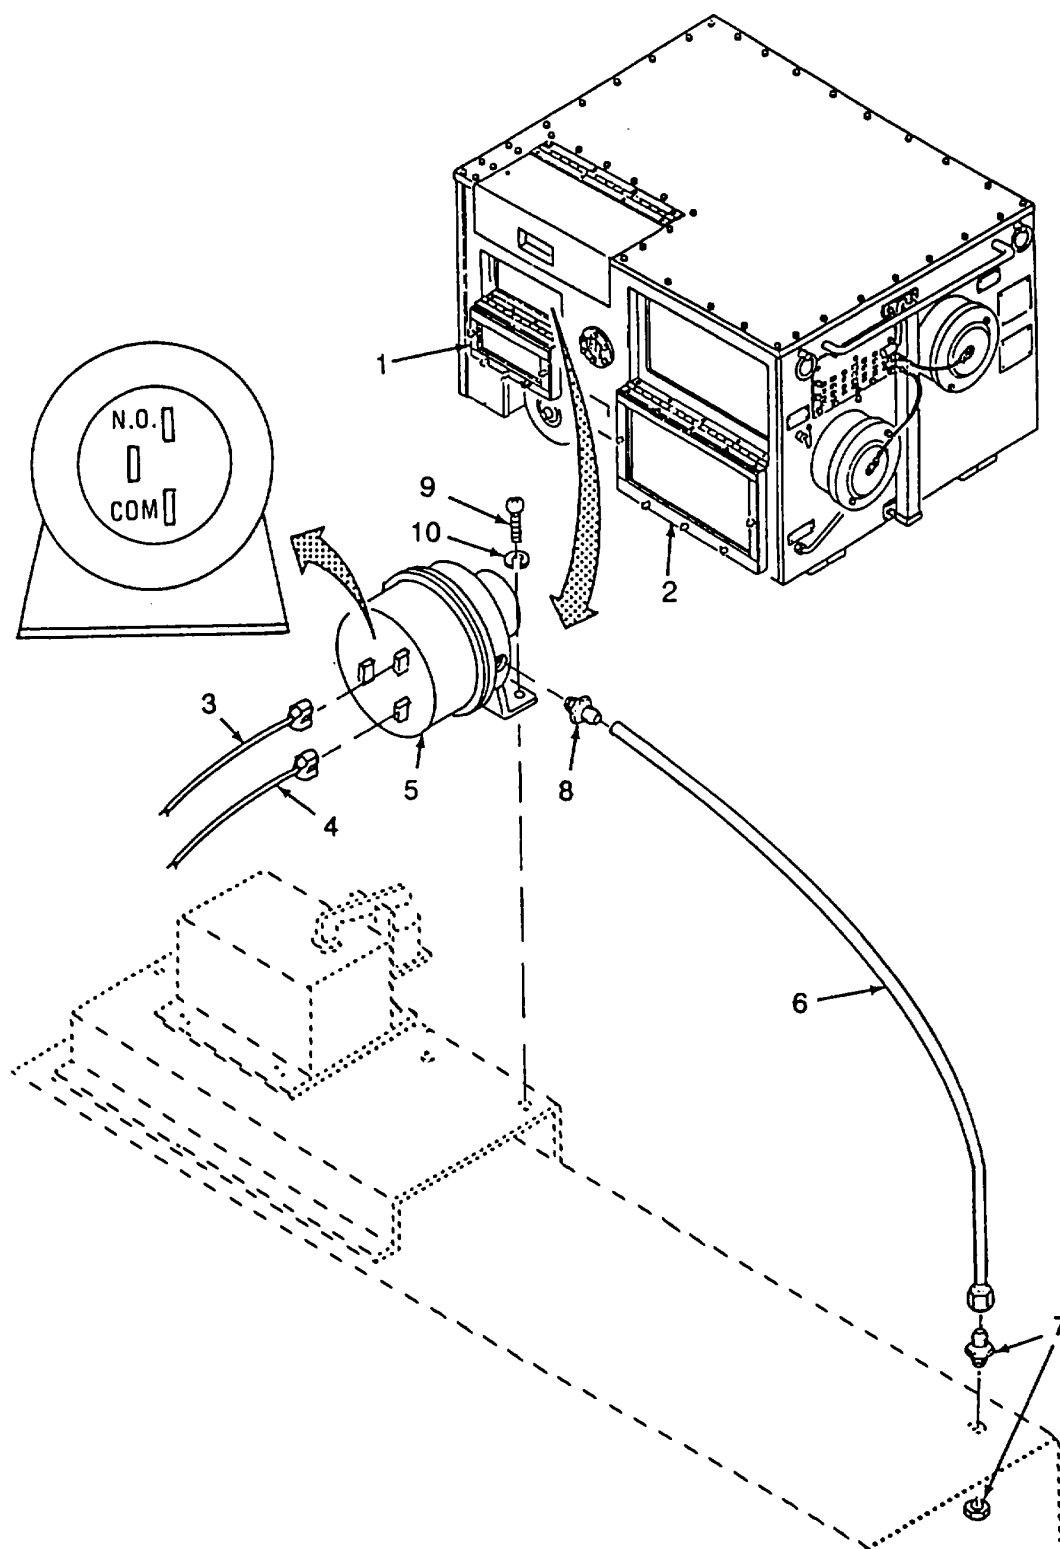

Figure 4-41. Air Pressure Switch
- b. Removal (Refer to Figure 4-41)
- (1) Open side, rear door (1) and side, front door (2).
- (2) Tag and disconnect wires (3) and (4) from air switch (5).
- (3) Remove air line (6) fittings (7) and (8).
- (4) Remove two screws (9), two lockwashers (10) and air switch (5). Discard lockwashers.
- d. Installation (Refer to Figure 4-41)
- (1) Install air switch (5), two lockwashers (10) and two screws (9).
- (2) Install fittings (8) and (7) and air line (6).
- (3) Connect wires (4) and (3) as follows:
- (4) Close doors (2) and (1).